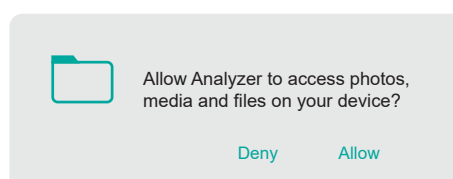

Figure 34. Allow Analyzer to Access to Device
2. When installing the application for the first time, tap Allow to access the Android device as shown in Figure 34.